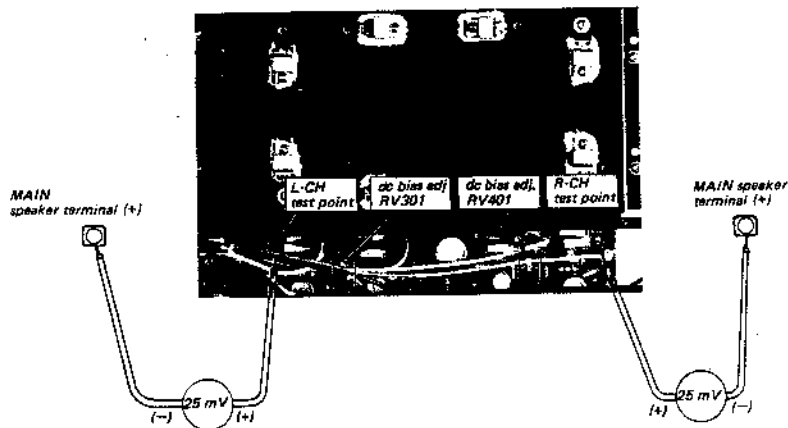

Fig. 3-1. Dc millivoltmeter connection and parts location
To avoid accidental power transistor damage, increase the ac line voltage gradually, using a variable transformer, while measuring the voltage across test points as shown in Fig. 3-1. Check to see that the reading does not exceed 25 mV. If it does, turn off the power immediately, then check and repair the trouble in the power amplifier board.
2. Connect the dc millivoltmeter across the test terminal post and MAIN speaker terminal as shown in Fig. 3-1.
1. Apply a drop of cement solvent to the adjustable resistors RV301, RV401 (See Fig. 3-1) on the power amplifier board, and set them as follows: